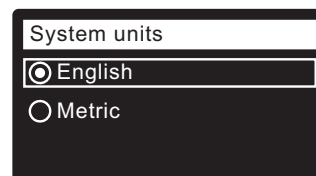

FIG. 23
17. **SYSTEM UNITS** If the desired system already has a dot next to it (See Figure 23), go to Step 18. Otherwise, press the DOWN (▼) or UP (▲) buttons to scroll to the desired system, then press the SELECT(O) button to choose it.
18. Press the SELECT (O) button.